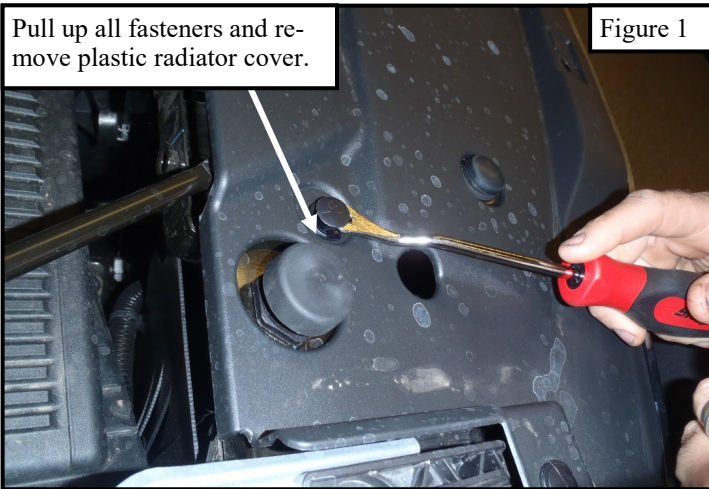

Figure 1
2. Remove the radiator cover to reveal screws that attach the grille to the front of vehicle. See Figure 1.